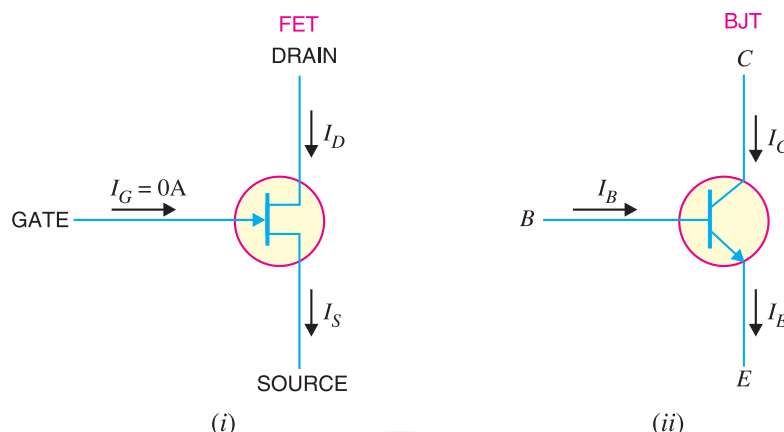

Fig. 19.5
- (iii) The primary functional difference between the *JFET* and the *BJT* is that no current (actually, a very, very small current) enters the gate of *JFET* (*i.e.* $I_G = 0A$). However, typical *BJT* base current might be a few μA while *JFET* gate current a thousand times smaller [See Fig. 19.5].